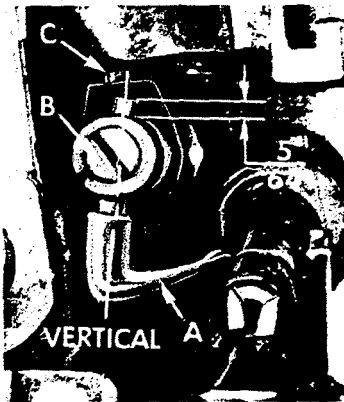

Fig. 6
Insert upper looper (A, Fig. 6) in its holder. Screw (B) holds the looper in its holder and permits looper to be pushed in or out, or turned around its shank. Screw (C) on the collar, holds looper holder in the shaft and allows the holder to be rotated or adjusted laterally.
Preliminary Setting: When looper is at the right end of its stroke, looper holder should be set to position the looper shank about vertical (Fig. 6). The top end of the looper shank should extend approximately 5/64 inch above holder (Fig. 6).